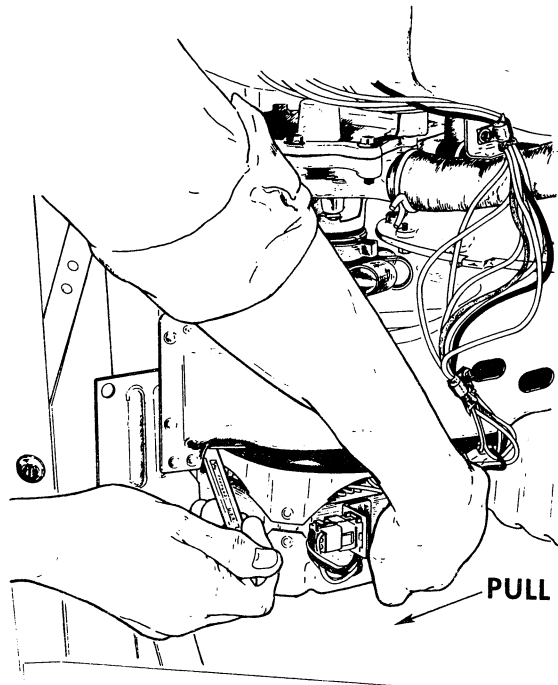

Figure 7 – Belt Tightening
4. Pull on motor with one hand and tighten outside mounting nut as shown in Fig. 7.
5. Pull on motor with one hand and tighten outside mounting nut as shown in Fig. 7.